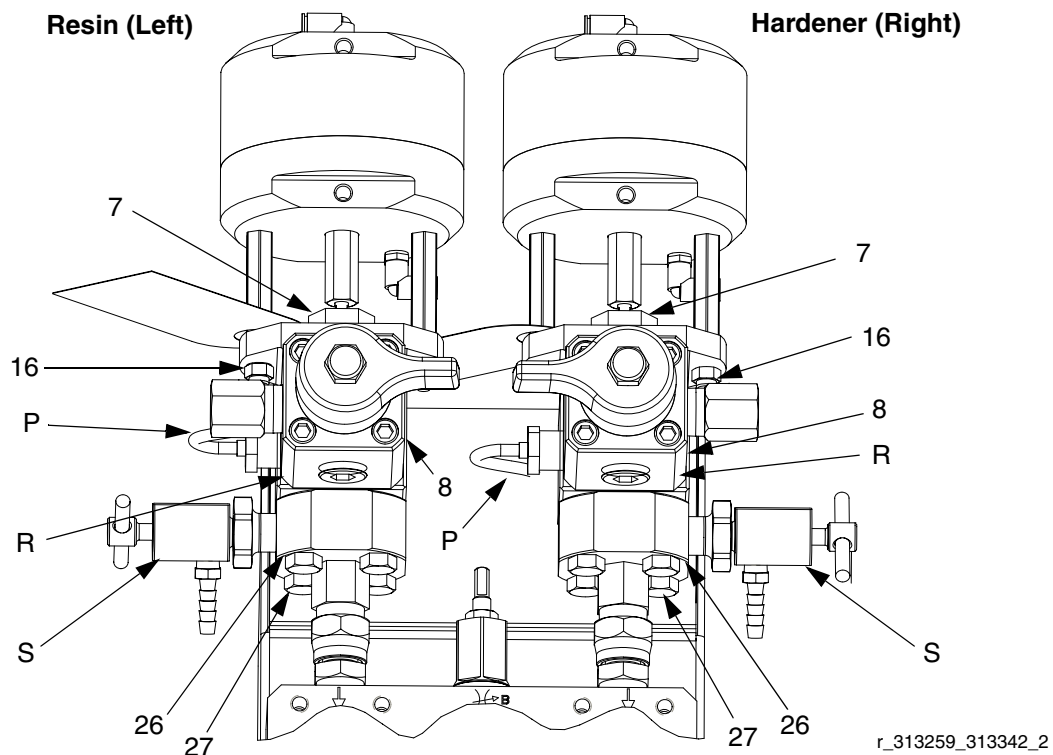

FIG. 1: Hardener and Resin Dosing Valve 255478 Orientation
2. *Resin dosing valve (left side):* Remove screws (27) and turn seat housing (26) 90° so that the side ports are facing to the left for the sampling valve (S) and to the rear for the temperature sensor (not shown). See FIG. 1.
3. *Hardener dosing valve (right side):* If necessary, remove screws (27) turn seat housing (26) 90° so
5. Use new o-ring (36) when replacing recirculation valve (R). If not using valve (R), plug port with plug (33). See parts illustration on page 8.
6. If not using sampling valve (S), plug port with plug (29).
7. Replace seat housing (26) with screws (27).
8. Fill dosing valves A and B packing nuts (7) with throat seal liquid (TSL) and tighten 1/4 turn after nut contacts packings; about 145-155 in.-lbs (16-18 N•m).